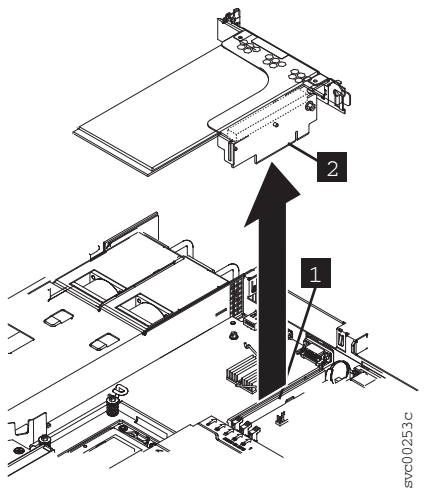

Figure 222. Removing the high-speed SAS riser-card assembly for the SAN Volume Controller 2145-CG8 or 2145-CF8
9. After removing the back-rail retaining screws for the adapter assembly, grasp the riser-card assembly at the rear edge and lift to remove the assembly, as shown in Figure 222.